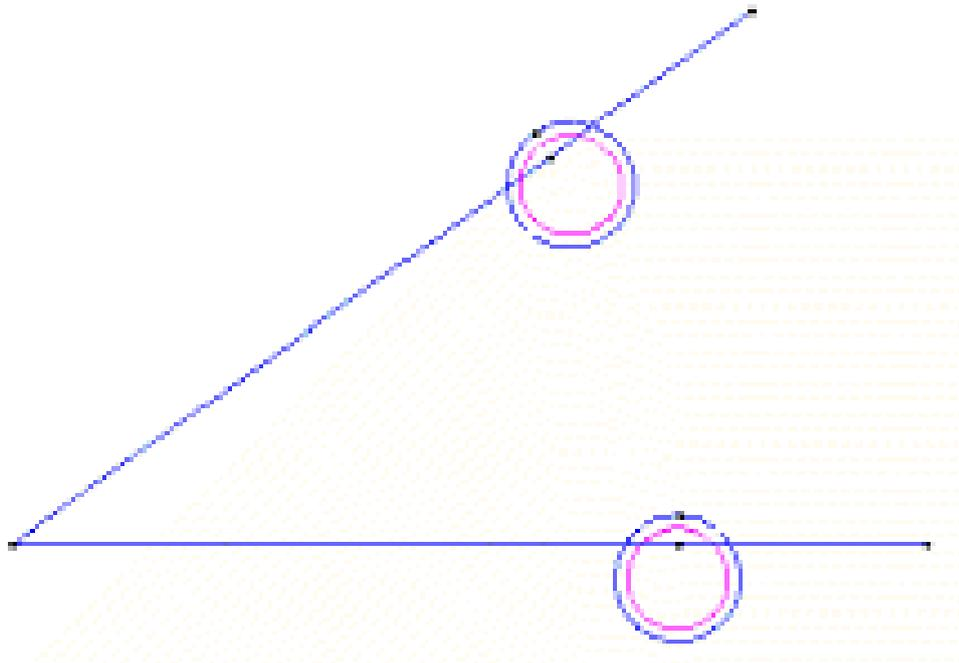

Figure 7. Result of copying and rotating the line.
- 4 . Press **ESC** to indicate that the process of selecting lines is finished, thus executing the task (see Figure 7).